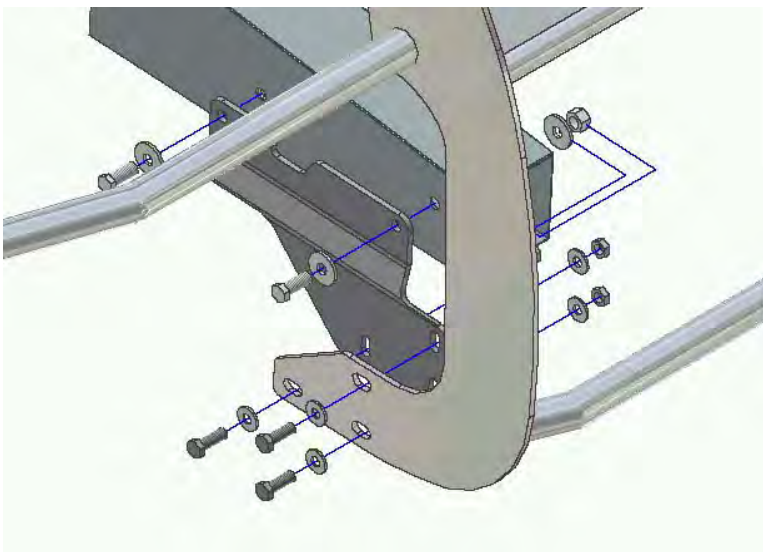
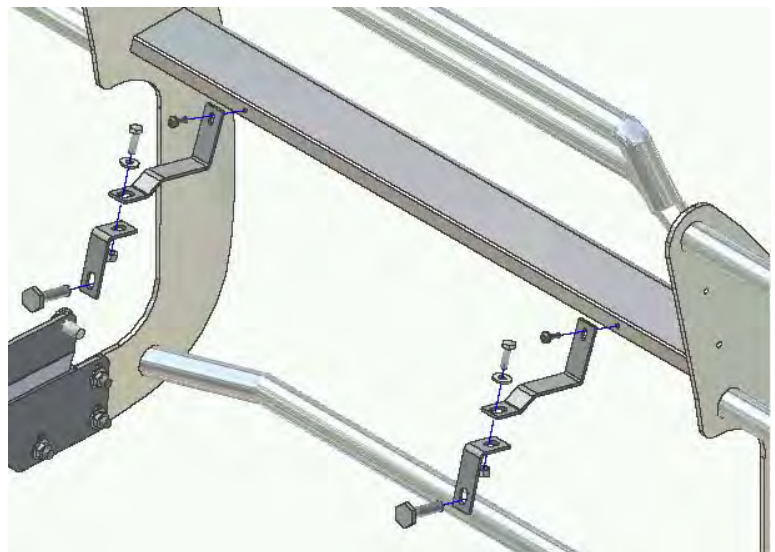

Figure 1.2 – Passenger-Side Mount Bracket
Figure 1.3 – Brace Brackets
1. Attach passenger-side Frame Mount Bracket to passenger-side frame rail as shown in Figure 1.2, and secure with (2) 1/2" x 1 1/4" hex bolts, (4) 1/2" flat washers, and (2) 1/2" hex lock nuts. Repeat for driver-side Frame Mount Bracket.
2. Line up the 3 holes on the lower portion of the Front Bar with the 3 holes on the outside of each of the Frame Mount Brackets and attach using (3) 7/16" x 1 1/4" hex bolts, (6) 7/16" flat washers, and (3) 7/16" hex lock nuts for each side. Hand tighten.
3. Assemble the Large and Small Brace Brackets together as shown in Figure 1.3, using (1) 3/8" x 1" bolt, (1) 3/8" flat washer and (1) 3/8" nut, for each set. Hand tighten.
4. Locate and remove (2) factory bolts on the top back of bumper between bottom of grill and top of bumper. On Passenger side, attach Brace Bracket to vehicle frame (see Figure 1.3) re-using factory bolt. Using (1) 1/4" x 3/4" button head bolt and (1) 1/4" nut, attach Brace Bracket to backside of center plate on the Front Bar and hand tighten.
6. Align the left and right side of the Front Bar to the vehicle bumper, and when satisfied that the Bar is centered, tighten the (6) bolts supporting the Front Bar. The (4) Brace Bracket bolts may now be tightened, to complete installation.